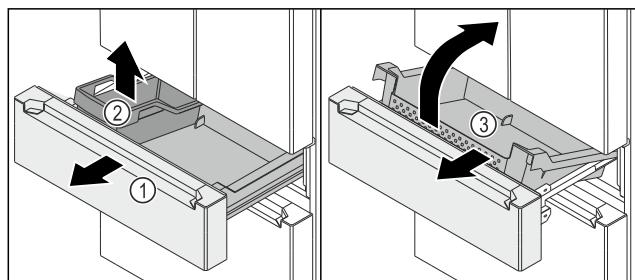

Fig. 150
- ▶ Pull the telescopic unit Fig. 150 (1) out as far as it will go.
- ▶ Remove the FlexBox Fig. 150 (2).
- ▶ Pull the container Fig. 150 (3) out forwards.
- ▶ Remove the container Fig. 150 (3) diagonally forwards.